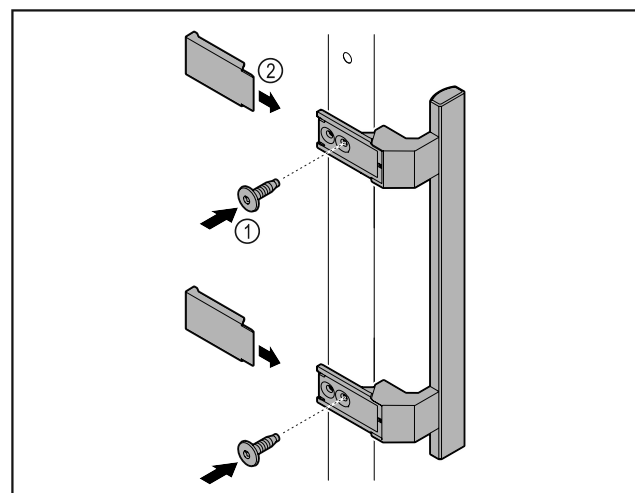

Fig. 6
- ▶ Attach handle from accessory kit to the door using supplied screws Fig. 6 (1).
- ▶ Put on cover Fig. 6 (2).